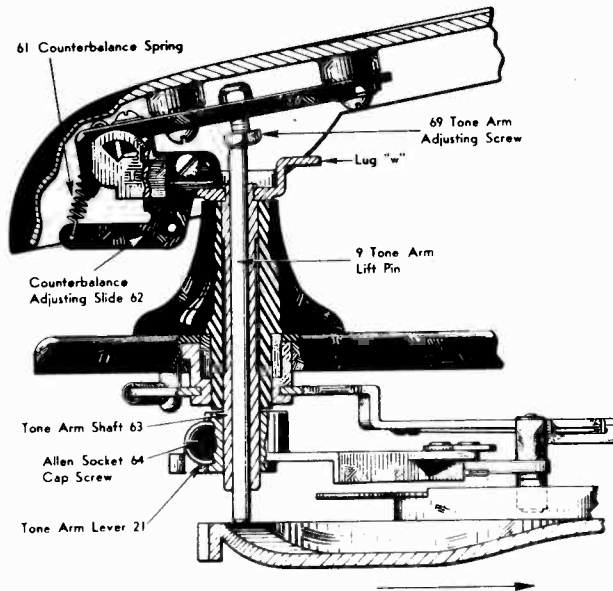

FIG. 33. CUTAWAY—SIDE VIEW
7. Tone arm binds when moved toward spindle as a result of insufficient vertical clearance for tone arm shaft (63). This is caused by tone arm lever (21) being too close to underside of panel; loosen Allen socket cap screw (64), reset and retighten. (See Fig. 33.)